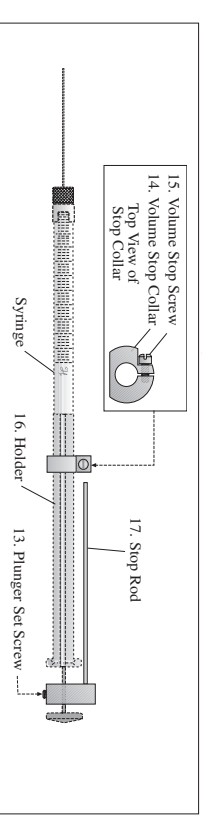

Figure 6
3. Loosen the stop collar set screw (15), and slip the stop collar (14) over the syringe barrel and onto the holder (16) (Figure 6).